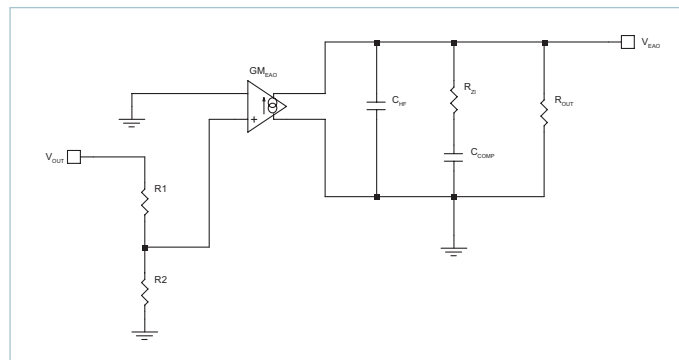

Figure 56 — PI354x-00 Error Amplifier Model
The small signal model of the error amplifier and compensator is shown in Figure 56. The error amplifier is a trans-conductance amplifier (TCA). The transfer function is shown in Equation (6), where in this example  $R1 = 2.3k\Omega$ ,  $R2 = 1k\Omega$ ,  $GM_{EAO} = 5.1mS$ ,  $R_{OUT} = 1Meg$ ,  $C_{HF} = 56pF$ ,  $C_{COMP} = 4.7nF$  and  $R_{Z1} = 5k\Omega$ . Here it is important to note that the external components are  $C_{COMP}$ ,  $R1$  and  $R2$ . The other components are internal to each specific model. See the data tables section “Soft Start, Tracking And Error Amplifier” for details.